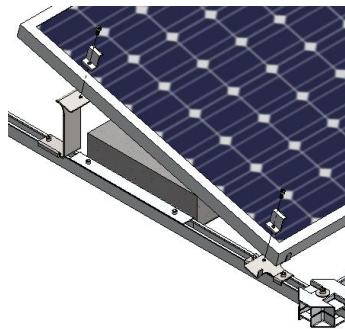

Figure 8
4.4.1 Place the PV module on Front Leg and Back Leg and fasten with End Clamp and Inter Clamp tightly as shown in Figure 8 and 9.